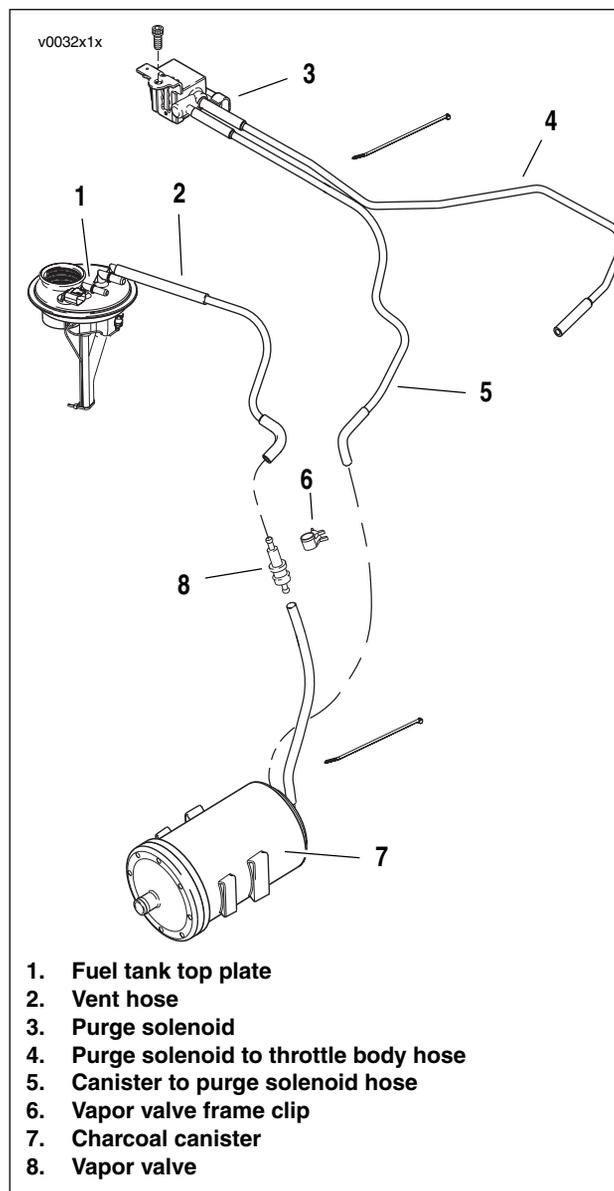

Figure 4-9. Evaporative Emissions Control System
- a. See Figure 4-9. Attach the purge solenoid to throttle body hose (4) to the throttle body.
- b. Route purge solenoid to throttle body hose (4) under frame tube to purge solenoid (3). Install cable ties.
- c. Attach the canister to purge solenoid hose (5) to the purge solenoid.
- a. See Figure 4-9. Route fuel tank vent hose (2) along left side of frame to top or long end of the vapor valve (8) clipped on frame tube. Install cable ties. Gently press the hose onto the top plate outlet port and onto the long end of the vapor valve.